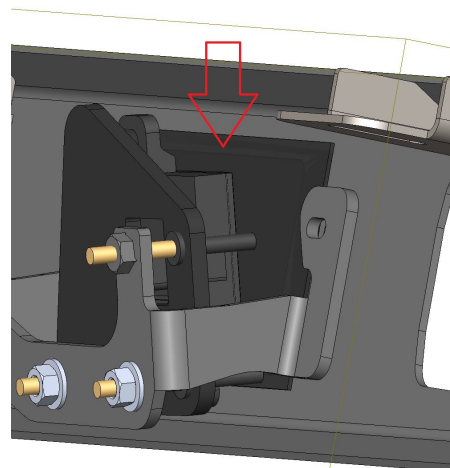

Figure 5
3. Cut plastic piece at top and bottom only (i.e. 61784) to sit flat against the front face while still covering ACC cut out (Figure 5).